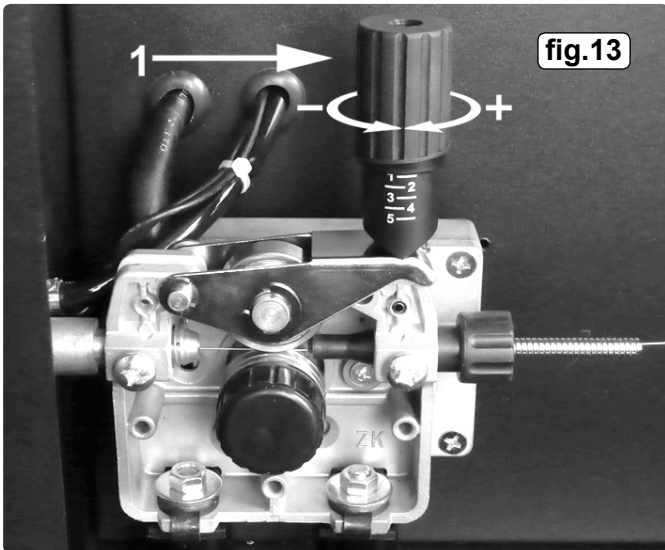

fig.13
- 3.9.3** Push down the pressure roller carrier onto the wire feed roller and hold it down. Lift up the locking/wire tension knob so that it enters the slot in the pressure roller carrier and snaps into the indent in its top surface. See fig.13. Rotate the tension knob to a medium setting i.e. between 2 and 3.
- 3.10 SETTING WIRE TENSION.** Adjust the wire tension by rotating the wire tension knob. Turn clockwise to increase the tension and anticlockwise to decrease the tension. See (1) in fig.13.